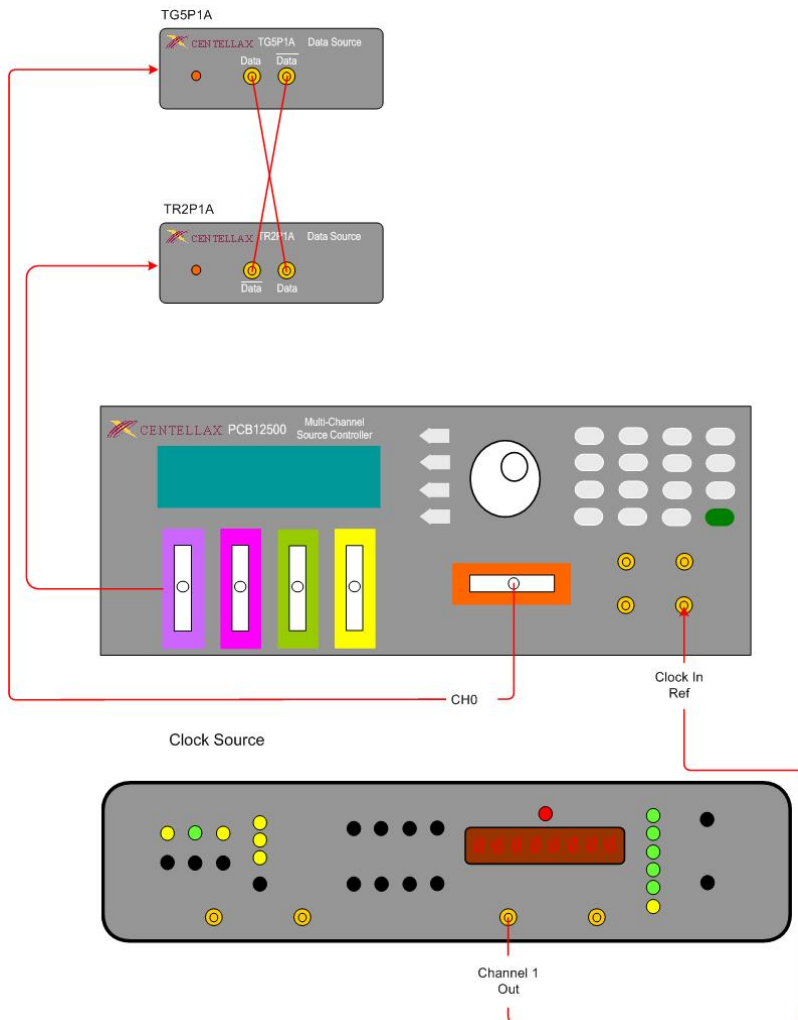

Figure 1. Installation setup
- 3 Connect the PCB12500 to a clock source as shown in Figure 1.